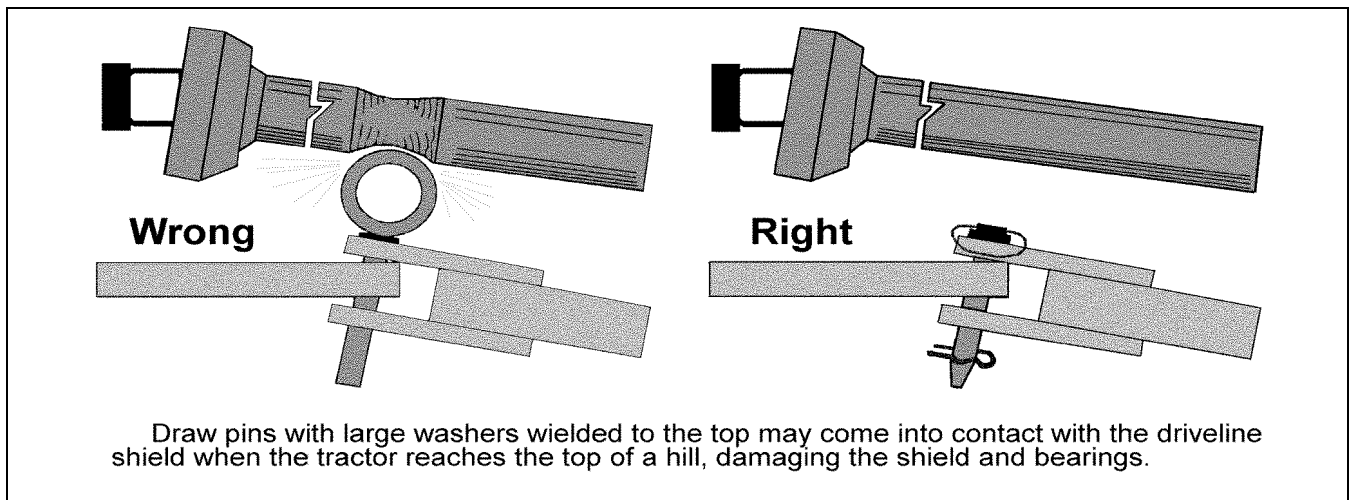

Figure 4.
3. *Check that the PTO driveline shields are in good condition.* With the PTO stopped, the shield should rotate freely by hand. Make any necessary repairs to damaged bearings or shields (See Figure 4).